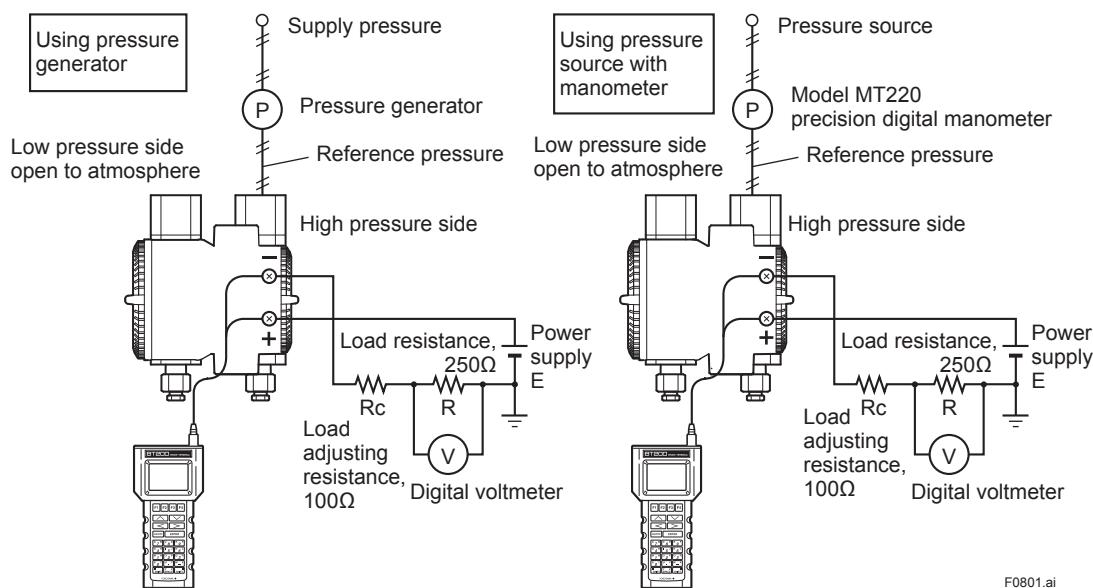

Figure 8.1 Instrument Connections (EJX110A, 4 to 20mA output)
- 1) Connect the transmitter and apparatus as shown in Figure 8.1 and warm it up for at least five minutes.
- Connect the instruments as shown in figure 8.1 and warm up the instruments for at least five minutes (ten minutes for EJ□310□.)